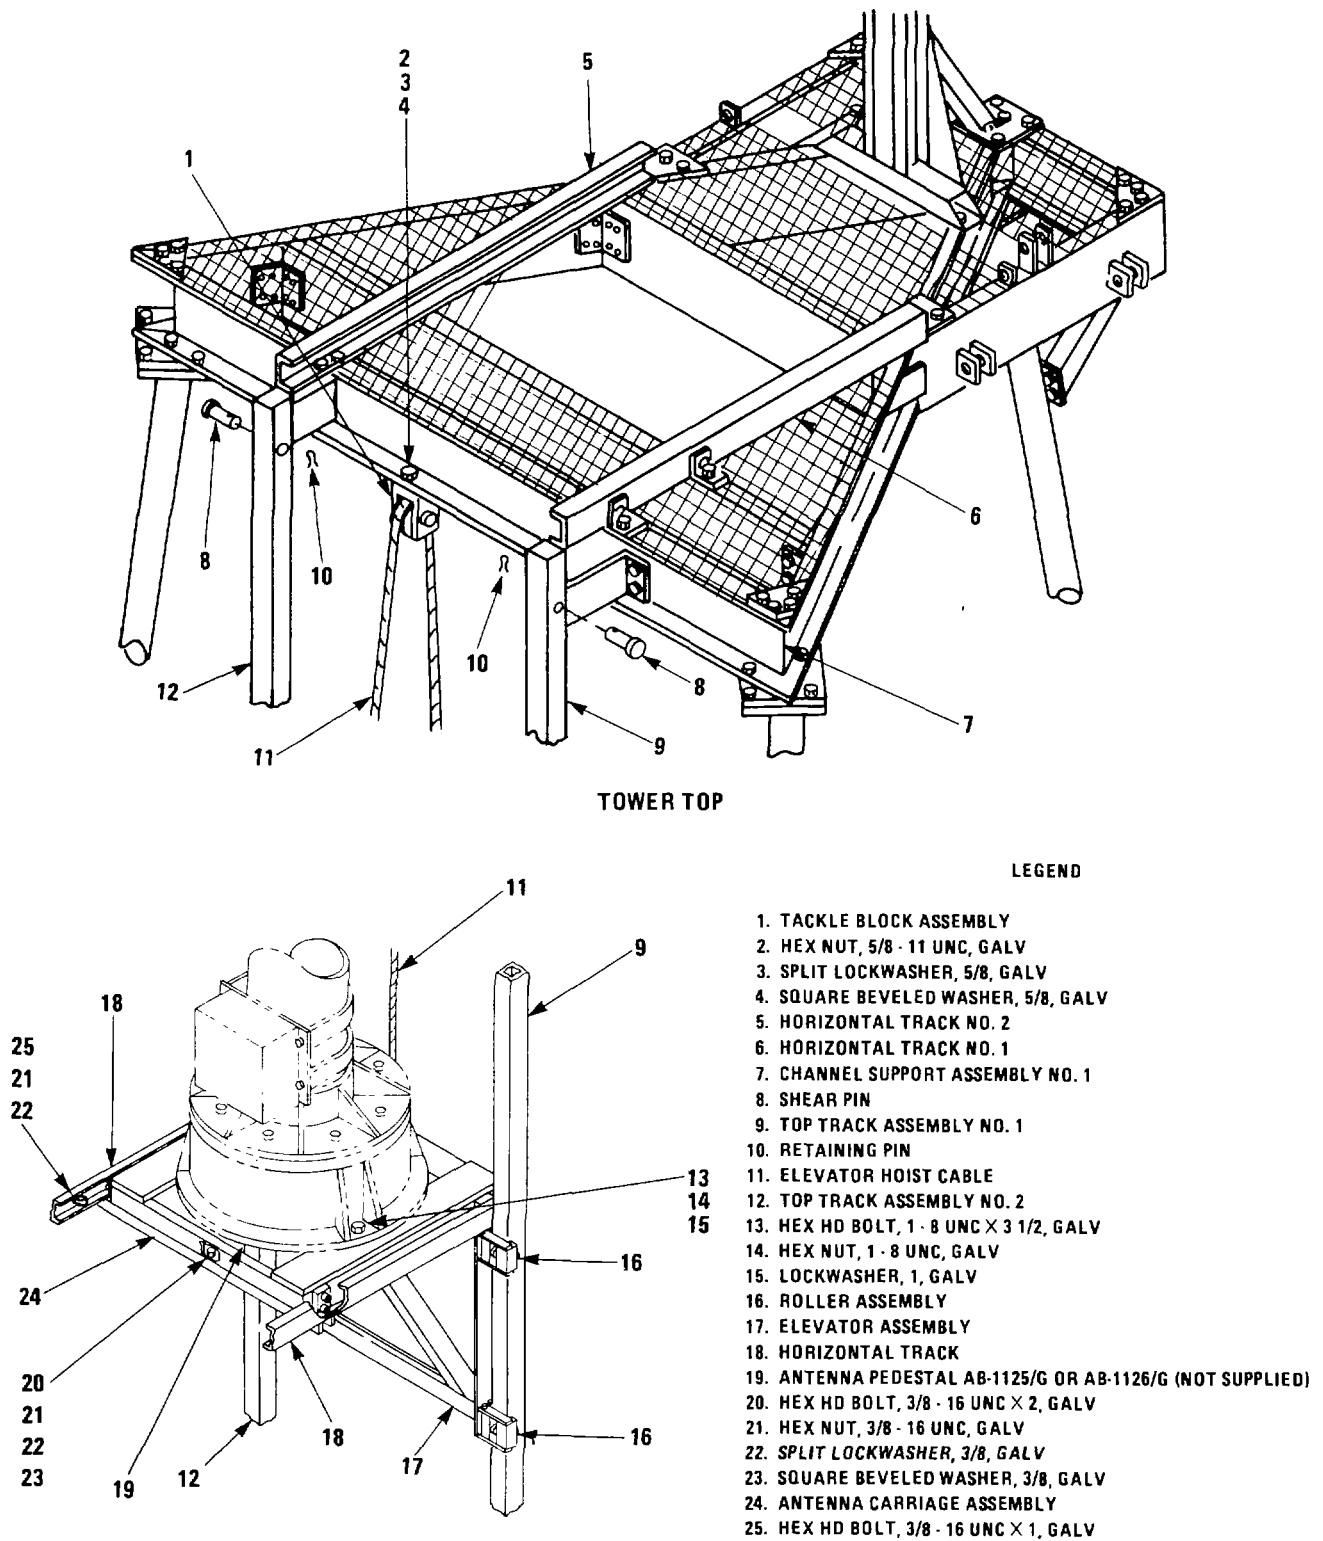
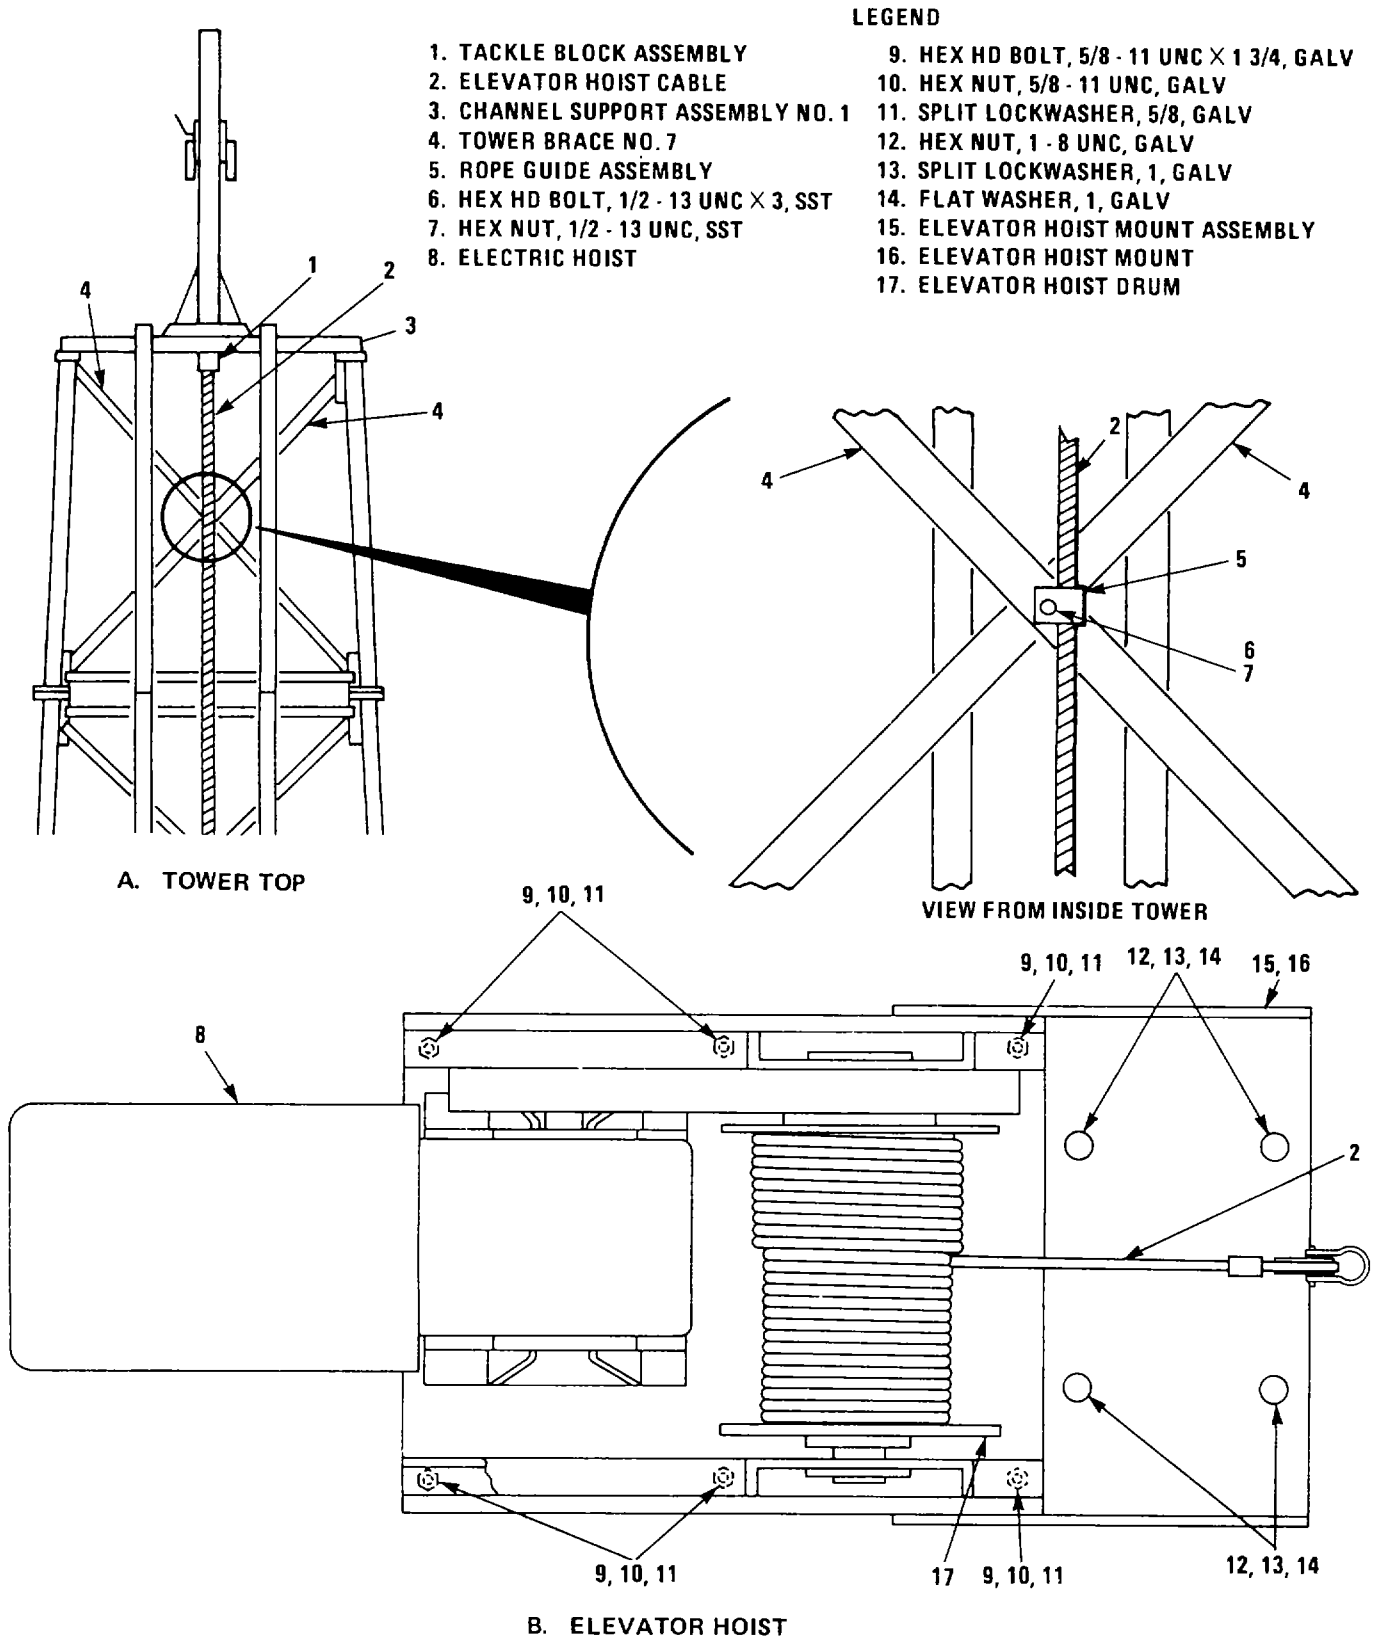
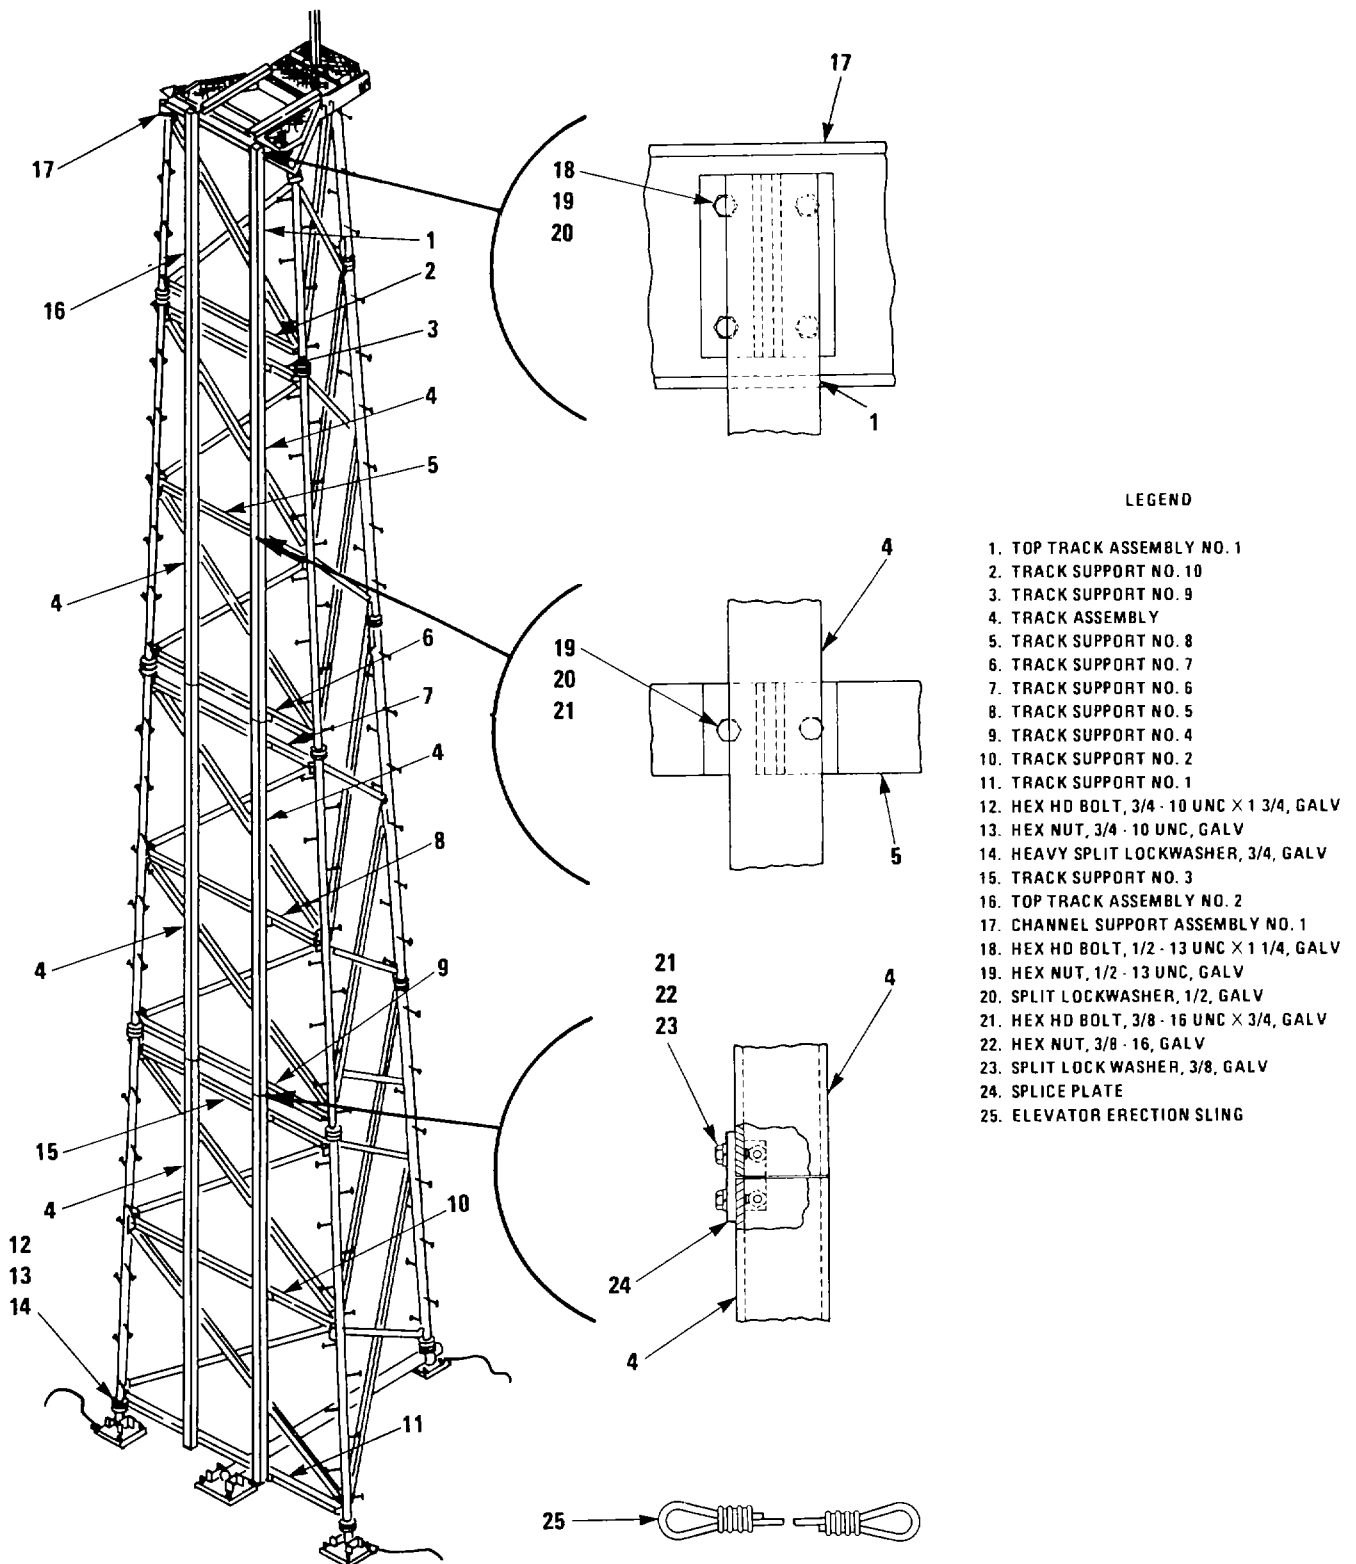

Figure 5-6. Elevator and Carriage Assemblies
Figure 5-7. Elevator Hoist, Cable, and Rope Guide Assembly
Figure 5-8. Elevator Tracks
*b. Antenna.* Item numbers that follow refer to figure 5-6, unless indicated otherwise.
(1) Install elevator assembly. Refer to paragraph 2-16d.
(9) Remove shear pins and retaining pins previously inserted. With elevator hoist, lower elevator.
(10) Remove remaining elements that must be removed before antenna can be detached from elevator. Raise and lower elevator when necessary. Use 20-foot ladder and tower leg ladders to reach antenna.
(11) Remove antenna and pedestal from elevator. Refer to TM 32-5985-201-15.
(12) If elevator is not to be used soon, remove elevator assembly and carriage. Refer to paragraph 2-18.
*c. Antenna Carriage Assembly.* Refer to figure 5-6.
(1) Remove two stop bolts (25), nuts (21), and lockwashers (22) from horizontal tracks (18) of elevator assembly.
(2) Detach carriage assembly (24) from elevator assembly (17) by removing six bolts (20), nuts (21), lockwashers (22), and square beveled washers (23).
(3) Have two persons roll carriage assembly (24) off horizontal tracks (18) of elevator assembly and disengage roller assemblies (16).
(4) Attach stop hardware to horizontal tracks (18) of elevator assembly with two bolts (25), nuts (21), and lockwashers (22).
*e. Elevator Hoist.* Refer to figure 5-7, unless otherwise indicated.
(1) Remove elevator assembly (paragraph 2-18).
(2) Have two persons work simultaneously to remove elevator hoist cable from tower. Have one climb tower leg B and the other tower leg C, each carrying a tag rope.
(3) Remove elevator hoist line from rope guide assembly (5), on crossover point of tower braces No. 7 (4), on tower section No. 4.
(4) Tie tag rope to elevator hoist cable (2) at point close to tackle block assembly (1) located on channel support assembly No. 1 (3) of tower adapter.
(5) Detach tackle block assembly (1, figure 5-6) from channel support assembly No. 1 (7, figure 5-6) by removing nut (2, figure 5-6), lockwasher (3, figure 5-6), and square beveled washer (4, figure 5-6).
(6) With tag rope, lower tackle block assembly and hoist cable to ground. Remove tag rope.
(7) To remove hoist cable from tackle block assembly, disassemble tackle block assembly, remove hoist cable, and assemble tackle block assembly. Refer to paragraph 2-16c, step (4).
(8) Wind elevator hoist cable (2) onto hoist drum (17). Disconnect hoist power.
(9) Remove six bolts (9), nuts (10), and lockwashers (11) that connect elevator hoist mount assembly (15) to elevator hoist mount (16). Remove elevator hoist (8) and elevator hoist mount assembly (15).
(10) Detach elevator hoist mount (16) from concrete pier by removing four nuts (12), lockwashers (13), and flat washers (14).
*f. Elevator Tracks With Tower Erect.* Refer to figure 5-8.
*g. Rope Guide Assembly.* Refer to figure 5-7. The rope guide assembly (5) is located at the crossover point of tower braces No. 7 (4) in tower section No. 4. Detach rope guide assembly by removing bolt (6) and nut (7).
(8) Place blocks under legs B (12) and C (11) approximately 2 feet from top of tower section. These blocks must be able to support 2,000 pounds and should be high enough to keep tower horizontal.
(9) Remove all truck winch and tower hoist rigging from tower.
*i. Elevator Tracks With Tower Lowered.* Refer to figure 5-8.
(1) Detach six splice plates (24) from six track assemblies (4) and top track assemblies Nos. 1 (1) and 2 (16) by removing 12 bolts (21), nuts (22), and lockwashers (23).
(2) Detach six track assemblies (4) from track supports Nos. 1 through 9 (11, 10, 15, 9, 8, 7, 6, 5, and 3) by removing 36 bolts (21), nuts (19), and lockwashers (20).
(3) Detach top track assemblies Nos. 1 (1) and 2 (16) from track support No. 10 (2) by removing four bolts (21), nuts (19), and lockwashers (20), and detach top track assemblies Nos. 1 (1) and 2 (16) from channel support assembly No. 1 (17), on tower adapter by removing eight bolts (18), nuts (19), and lockwashers (20).